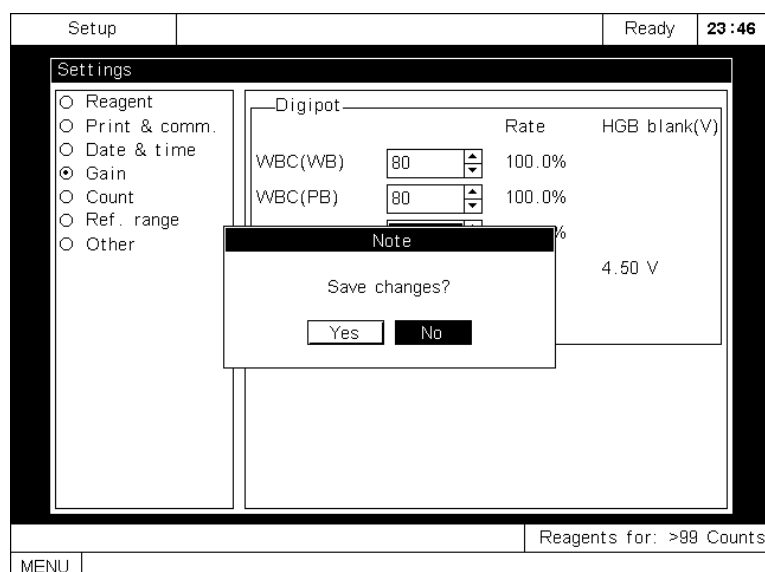

Figure 7-26 Saving changes
- press [MENU] and a dialog box will pop up to remind you to save the changes, as Figure 7-26 shows. Press [] or [] to move the cursor to **Yes** and press [ENTER] to save the changes and exit to the system menu or move the cursor to **No** and press [ENTER] to exit to the system menu without saving the changes.